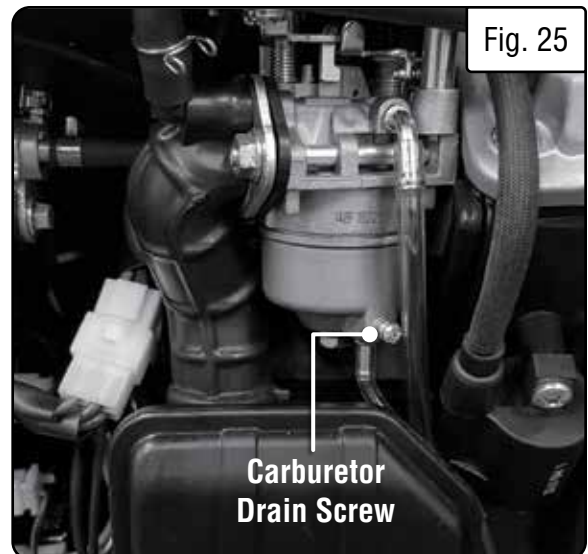

Fig. 25
3. Open up the carburetor drain screw (Fig. 25) with a Phillips screwdriver and drain out any gasoline that has built up inside the carburetor.